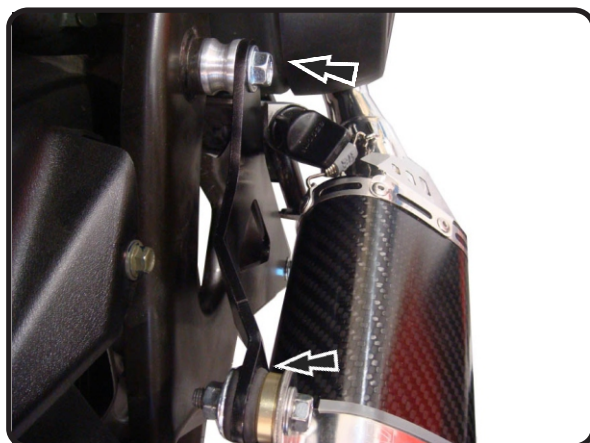

Fig. 3
-Insert supplied rubber grommet into the rear mounting hole on the muffler mounting bracket. (See Fig 3 and Parts Diagram)
-Insert aluminum spacer into rubber grommet as shown in Fig. 3 and Fig. 4.